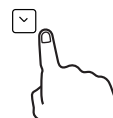

fig.5
- Press the timer button (fig. 5), and then use the up and down buttons to set the countdown time.